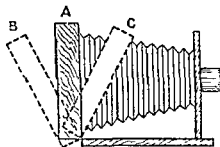

FIG 11
All good cameras for stand work have certain fittings not found in hand cameras. There is, for instance, the swing back (Fig 11) shown upright at (A), swung backward at (B) and forward at (C). The use of this back will be fully described in the chapter on architecture.